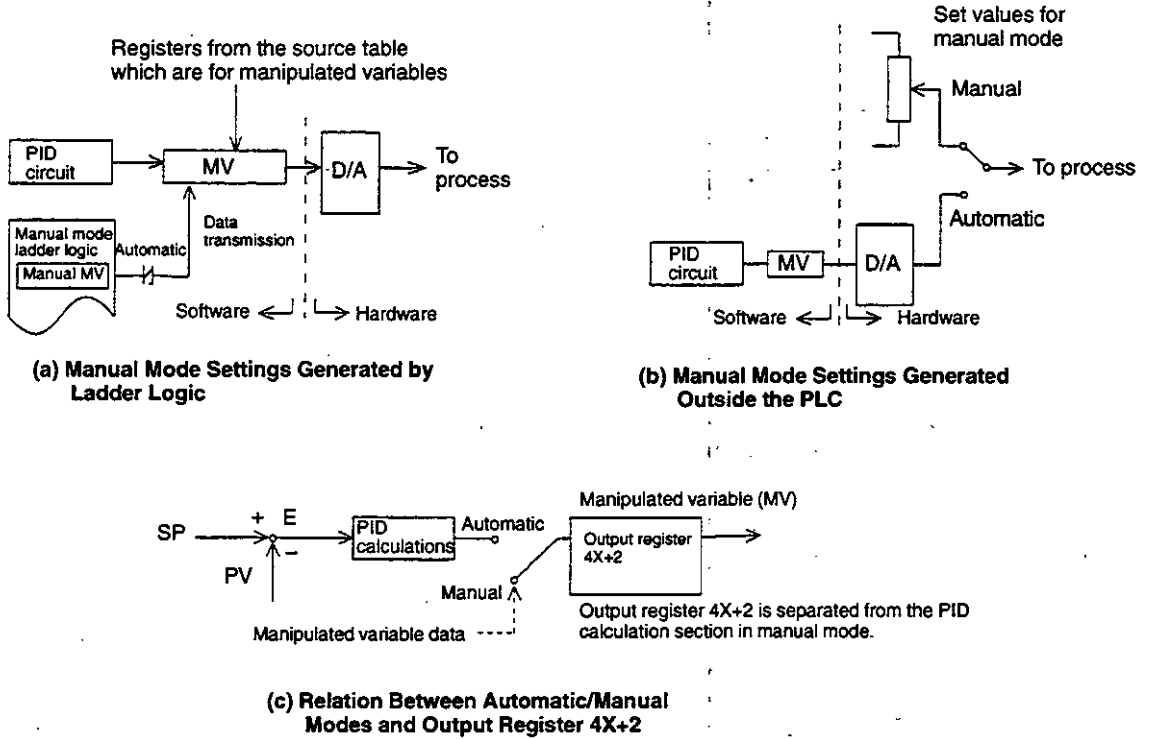

Figure 3.2 Manual Mode Set Values
Scaling and monitoring is performed in manual mode. Part of PID calculations are also executed in manual mode to enable bumpless switching from manual to automatic operation. The results are output to the middle element register (4Y+3). As shown in *Figure 3.2 (c)*, however, the PID calculation section and the manipulated variable output register (4X+2) are separate, so manipulated variables are not altered.
Note (a) After switching from automatic to manual, the value calculated immediately before switching remain as the manipulated variable (MV). Accordingly, when providing the manipulated variable in manual mode inside the PLC, it is necessary to prepare separate ladder logic circuits for the manual mode, as shown in *Figure 3.2 (a)*. These ladder logic circuits may, for example, convert engineering units of the manual process variable into internal units and provide the manipulated variable (MV). *Figure 3.2 (b)* shows an example in which circuits for the manual mode outside the PLC system was provided.
(b) To switch bumplessly from manual to automatic, the value set in manual in the upper element register (4X+2), as shown in *Figure 3.2 (a)*, is used as the manipulated variable (MV) so there is no particular problem. If the manipulated variable is set outside, as shown in *Figure 3.2 (b)*, however, it is unknown what value will enter the upper element register, so bumpless switching cannot be carried out. It is therefore necessary to set the value to the PID instruction's top element register that have been converted into internal units.